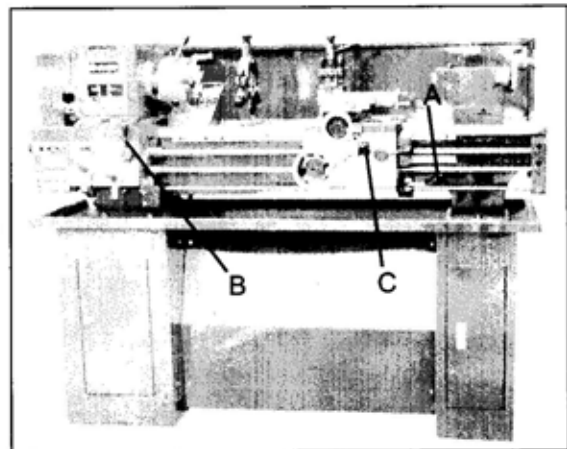

Fig. 19
1. Move the forward/reverse selector (A, Fig. 19) up or down depending on desired direction.
2. Set the carriage feed/thread selector (B, Fig. 19) to the left position to start the feed rod rotating.
Push lever (C, Fig. 19) to the right and down to engage cross feed. Pull lever to the left and up to engage longitudinal feed.